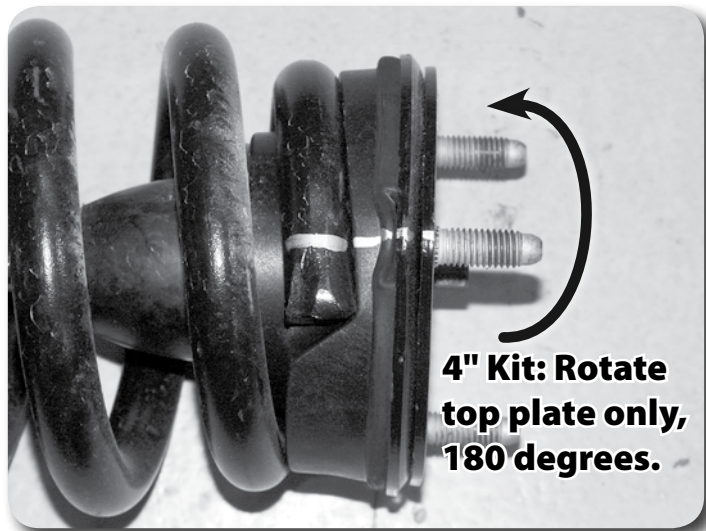

Figure 21
49. **4 inch kits only:** The upper strut mounting plate must be rotated 180 degrees. Make an indexing mark on the coil at the top winding by the stud that faced 'out' on the vehicle. Place the coil in a strut compressor and rotate the top 180 degrees. The stud will still face out on the vehicle when reinstalled. This step rotates the buldge in the coil to give enough clearance. This step is not necessary for the 6 inch kits. **Figure 21**